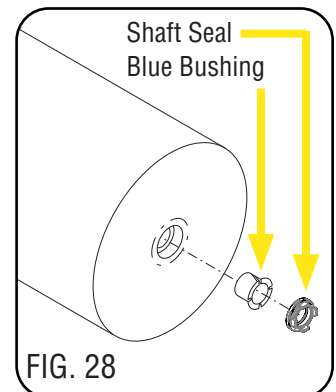

FIG. 28
11. Place seal on insertion tool #37593.00001 or insert seal by hand with tabs facing outward. FIG. 28.
12. Push seal into cooling drum hole until it is firmly seated against the blue bushing; remove tool. FIG. 28.